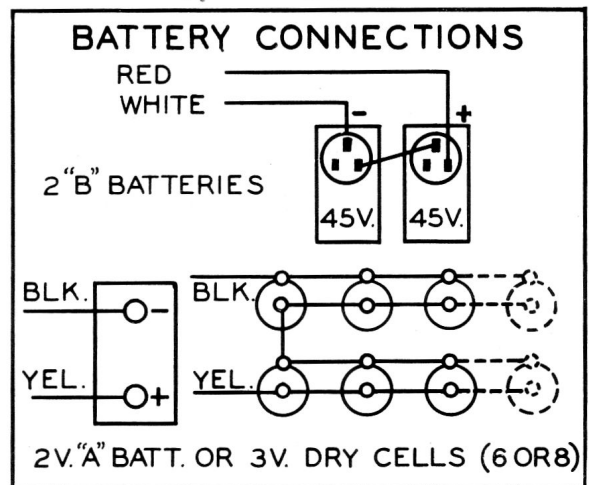

Figure 3.—Battery Connecting Diagram
CIRCUIT:—(Refer to Schematic Circuit Diagram)—The antenna transformer uses inductive coupling between the primary and secondary, items 2 and 3, and capacity coupling through item 4. The gang capacitor has two sections. The first one, item 5, tunes the antenna circuit and the rear one, item 9, tunes the oscillator circuit. The parallel trimmers, items 6, 10 and 11, are mounted on the gang. The type 1D7G is used as a combined oscillator and first detector and is coupled to the type 1D5GP I.F. Amplifier by means of the double-tuned I.F. transformer, item 17. This tube is in turn coupled to the diode part of the type 1H6G, by a similar transformer, item 26. Item 33 is the diode load resistor. Full a.v.c. control is applied to the types 1D7G and 1D5GP through the a.v.c. filter which consists of items 12 and 25. Audio voltage is coupled through the capacitor, item 34, to the volume control, item 35, which is in turn coupled to the triode 1st A.F. amplifier part of the type 1H6G through the capacitor, item 36. The output of this tube is in turn resistance capacity coupled to the type 1F5G output amplifier. The tone control consists of the switch, item 41, and the capacitor, item 40. The output circuits are conventional. Bias voltages for the types 1H6G and 1F5G are obtained across the resistors, items 42 and 43, and for the types 1D7G and 1D5GP from the voltage drop across the filaments. The battery switch, item 55, is mounted on the volume control. The power supply is interrupted by opening the filament circuit. The second set of contacts shown on the schematic diagram serves to switch on and off the vibrator when this type of power supply is used. Item 47 is an electrolytic bypass capacitor across the "B" batteries which are connected to the receiver by means of the plugs, items 58 and 59, permanently wired to the battery cable, item 53, which fit into the sockets, mounted on the "B" batteries. Battery connections are indicated in Figure 3.